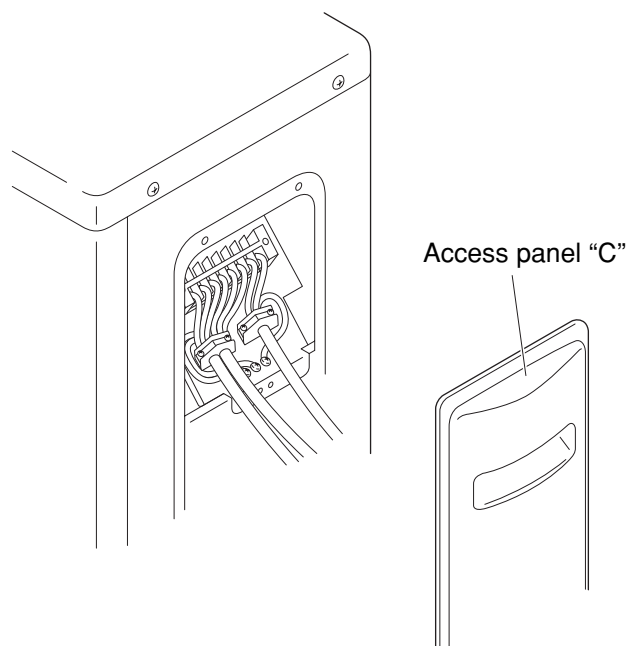

Fig. 32
- (1) Remove access panel "C". (Fig. 32)
- (2) Connect the inter-unit wiring and power line according to the drawing on the panel side.
- (3) Be sure to size each wire allowing approx. 10 cm longer than the required length for wiring. Store excess wiring inside the cabinet.
- (4) When connections are completed, check that all connections are correct as shown in the wiring system diagram on panel side.
- (5) Be sure to ground the unit according to your local codes.